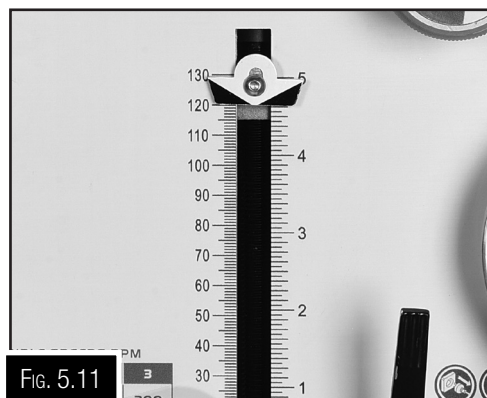

Fig. 5.11
2. Install the tap, into a tapping chuck and bring it down until it touches the top of the hole to be tapped. Select the maximum tapping depth on the depth gauge, (Fig. 5.11) making sure that the tap does not bottom out.